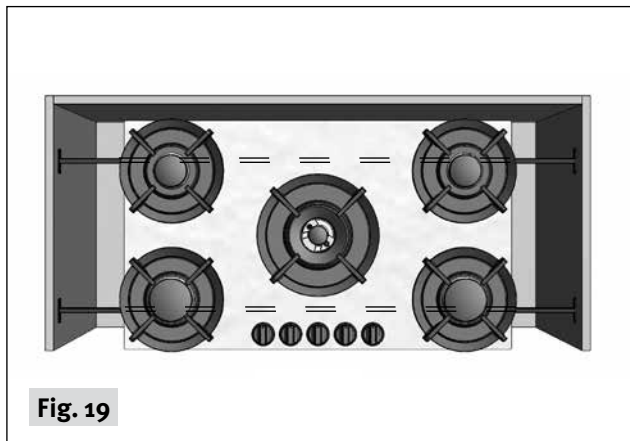

Fig. 19
- 4a. The PITT® cooking module should always be fully supported with the PITT® cooking support set to prevent bending of the kitchen benchtop (**fig. 19 and 20**).